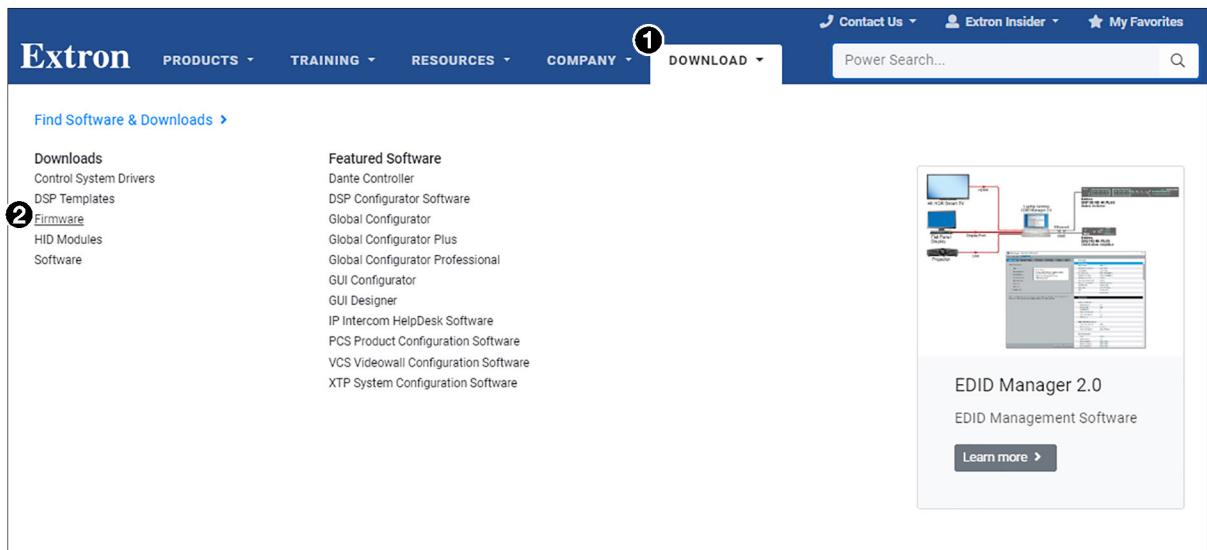

Figure 112. Downloading Firmware from the Extron Website
1. On www.extron.com, click the **Download** tab (see figure 112, ①).
2. Move the pointer to the **Firmware** link (②) in the **Downloads** column and click it.